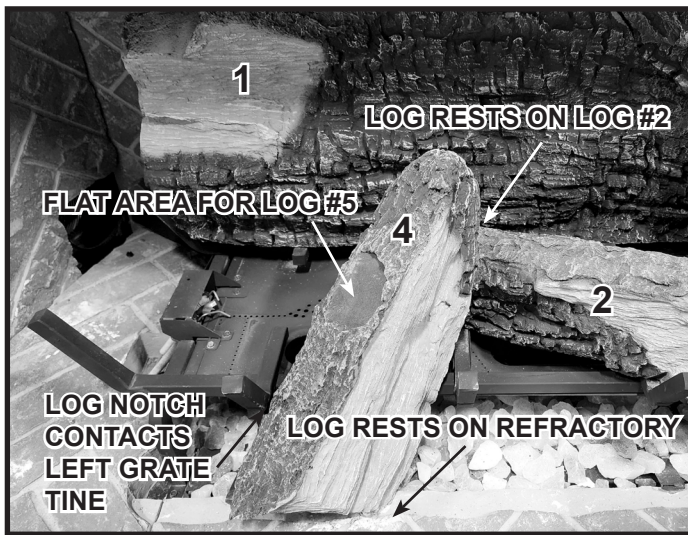
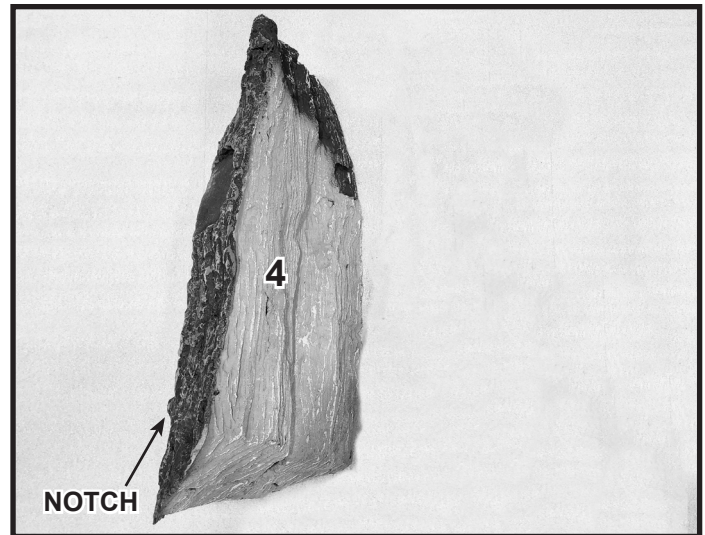

Figure 6
Figure 7
**Log #4 (SRV2282-744):** Place Log #4 between the left and center grate tines. The base of Log #4 should rest on the refractory. Notch on Log #4, shown in Figure 7, will rest on the front left grate tine and the top of log will rest in notch on Log #2. See Figure 6.
**Log #5 (SRV2281-745):** Locate flat area on Log #4 that will be used to position Log #5. See Figure 6. Place Log #5 into appliance as shown in Figure 9. The left side of the log will rest on bottom refractory and pilot bracket. It will also lean against the rear grate tine. The right side of Log #5 will rest in the notch on Log #4. There will be a space approximately 1 inch from the end of the log to the left side refractory.